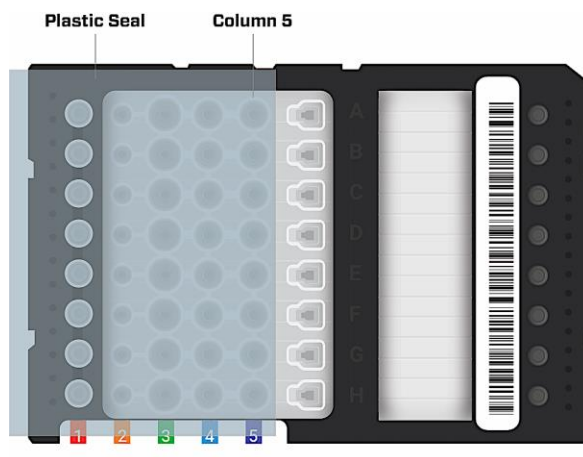

Figure 9. Proper plastic seal application for sample recovery
2. Remove the Ionic fluidic chip from the instrument stage and place on a level surface. Cover columns 1–5 with a plastic adhesive film leaving the Sample Well column uncovered as shown in **Figure 9**.